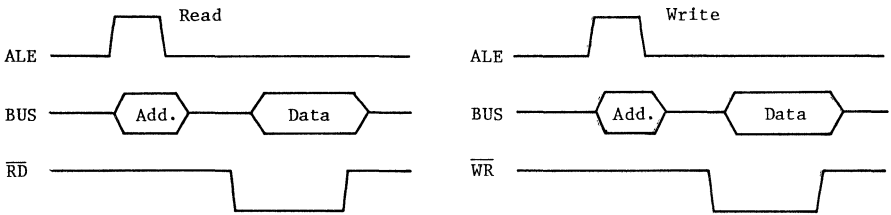

Fig.6 Timing of Accessing External Data Memory
• Figure 6 illustrates the timing of accessing the external data memory during execution of external program.
(3) Interface with I/O Expander (TMP8243P)